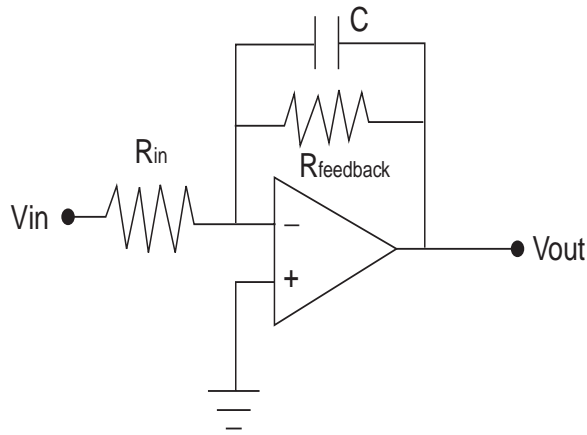

Figure 3: An active low-pass filter.
3. Find the transfer function of the filter and differentiator circuit (see Figure 3). Use the differentiator circuit from your Op-Amp lab.